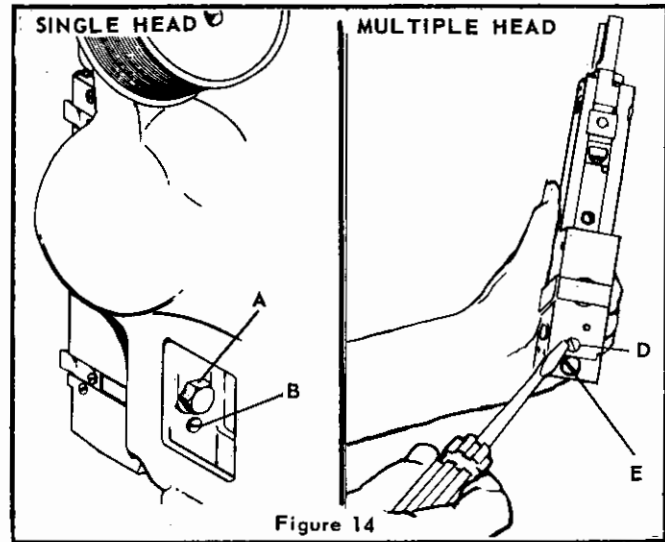

Figure 14
**B. Head/Clincher Alignment (Figure 14)**